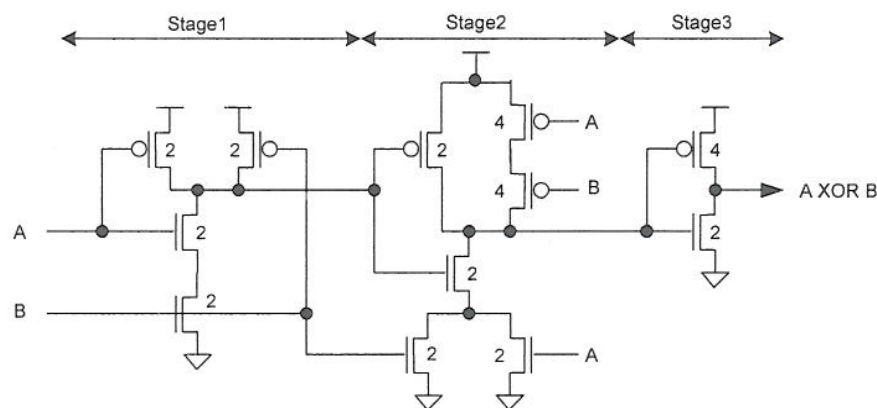

Figure 5.1
b) Figure 5.1 shows the circuit of a static CMOS XOR gate. All transistors are of length 2λ . The number adjacent to each transistor indicates its width in λ units. Using the method of Logical Effort estimate, in terms of the number of unit inverter delays, the delay from A or B input to the XOR output. Assume that the loading on the output is equivalent to 10 standard inverter loads where a standard inverter is assumed to have pull-up and pull-down transistor widths of 4λ and 2λ respectively. You may ignore the effect of parasitic capacitances.